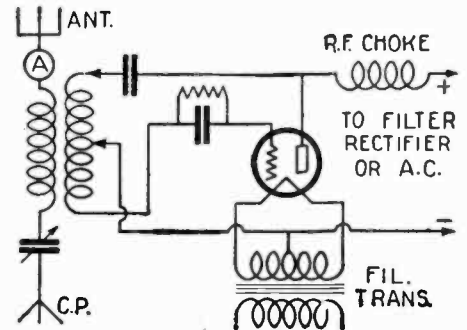

FIG. 1
Fig. 1. A transmitting tube designed for short-wave work. The internal capacity of the tube is greatly reduced by the use of widely-separated leads from the tube elements.
**T**HE Hartley circuit, due to its simplicity and flexibility, can be readily adjusted to oscillate on practically any wavelength. This may seem strange to some, but on very short wavelengths, under certain conditions, it is sometimes difficult to prevent the circuit from oscillating. It is for these reasons and others that practically all amateurs have chosen the Hartley circuit for their transmitters. This circuit, but slightly modified for short-wave operation, is shown in Fig. 1.